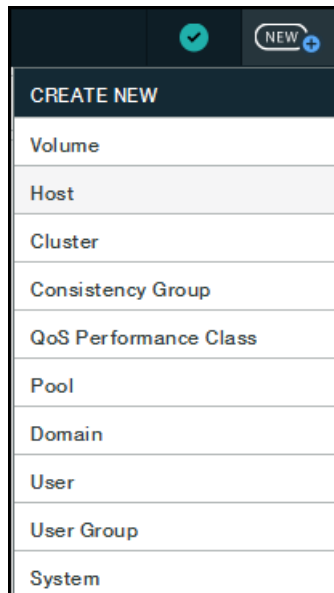

Figure 7-5 Defining a new host
3. From the Hyper-Scale Manager Dashboard, mouse over the **New** icon, click **New Item**, and select **Host** from the menu, as shown in Figure 7-5. This illustration applies to a FC-connected host. For an iSCSI-connected host, see the procedure that is explained in *IBM FlashSystem A9000, IBM FlashSystem A9000R, and IBM XIV Storage System: Host Attachment and Interoperability*, SG24-8368.